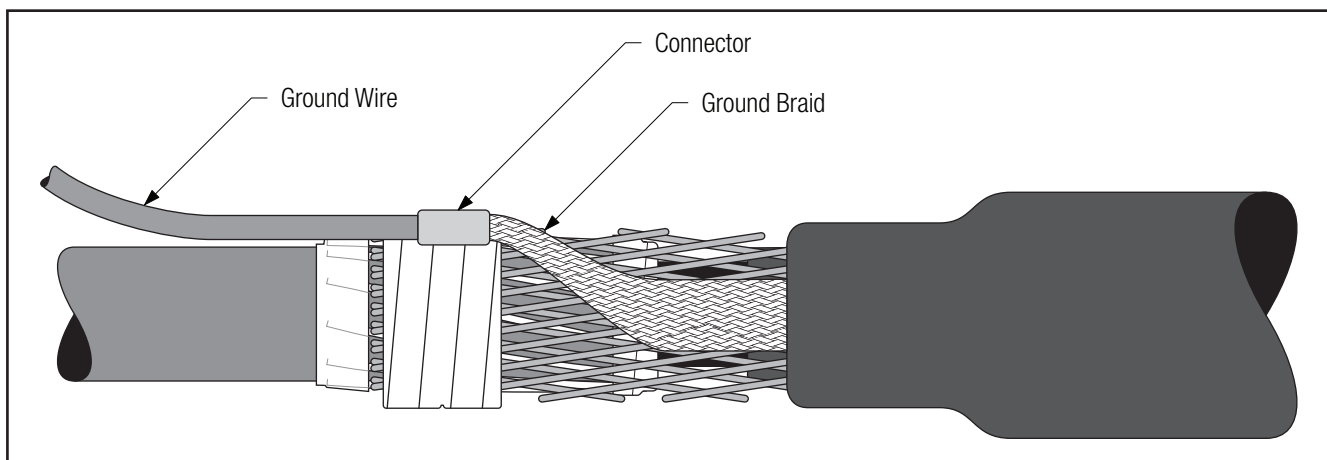

Figure 22
6.1 Connect a ground wire to the pre-installed ground braid on the integrated splice using an appropriate connector. Keep connector profile as low as possible. For C-tap or H-tap connectors, position flat against the cable. Crimp connector following the connector manufacturer's recommendations (*Figure 22*).